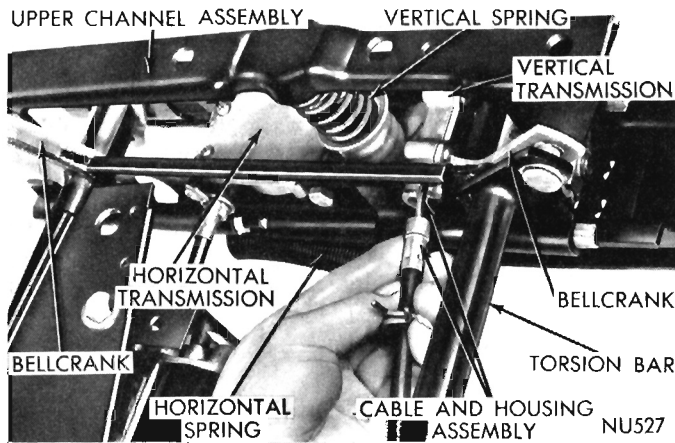

Fig. 5 - Removing or Installing Cable and Housing. sion assemblies require maintenance, the assemblies must be synchronized to insure easy and proper operation.
(1) After motor has been disconnected. Remove corbin clamp from cable housing then slide cable and housing out of connector (Fig. 5).